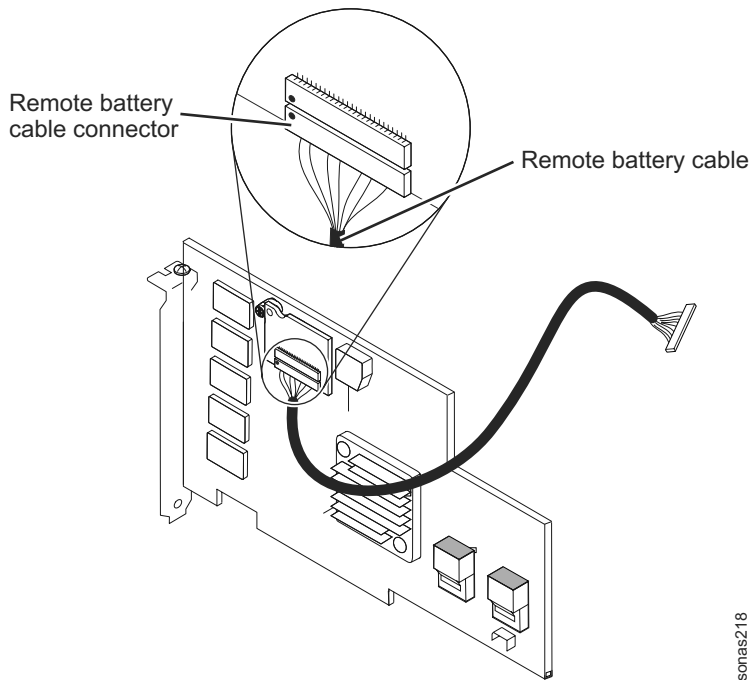

Figure 36. Connecting the remote battery cable
**Attention:** To avoid damage to the hardware, make sure that you align the black dot on the cable connector with the black dot on the connector on the interposer card. Do not force the remote battery cable into the connector. See Figure 36 on page 120